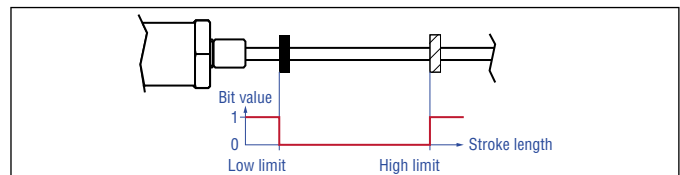

Fig. 57: Switching points for R-Series V PROFINET with linear profile
- **Sensor status 2:** This module indicates when a high limit is exceeded or a low limit is not reached. The switching points mark the beginning and the end of a work area (Fig. 57). According to Fig. 58, the status of the switching points is displayed via bits 0 and 1 of this module. Reading these status values is described on page 44.